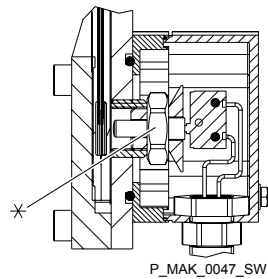

Fig. 24: Cross-section through the diaphragm rupture warning system
9. ➤ Only drain the hydraulic oil from the hydraulic end via the clear acrylic plug (3) - see  on page 41.
10. ➤ Remove the protective cover (5) from the backplate (6).
11. ➤ Screw the clear acrylic plug (3) back in and tighten slightly.
12. ➤ Remove the orange cover from the diaphragm rupture warning system by undoing the screws - see Fig. 24.
13. ➤ Undo the 6 nuts (1) at the liquid end (oil trough?).
- 28.** Clean the outside of the bleed valve (5) with compressed air.
- 30.** Screw in the bleed valve (5).
- 31.** Plug on the bleed hose (4).
- 34.** Screw out the diaphragm rupture sensor by a couple of turns - see Fig. 24.